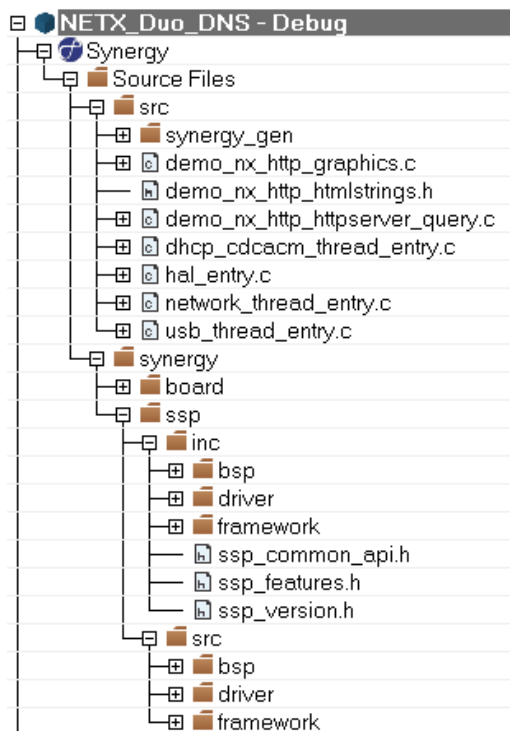

Figure 1.10 Synergy Configuration tabs
- The project should resemble the folder structure in Figure 1.10.